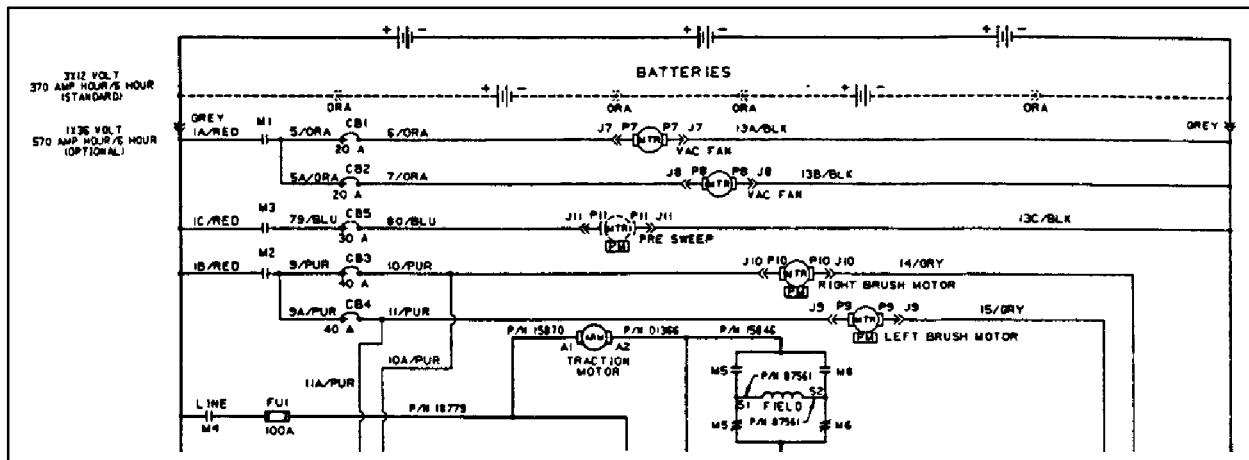
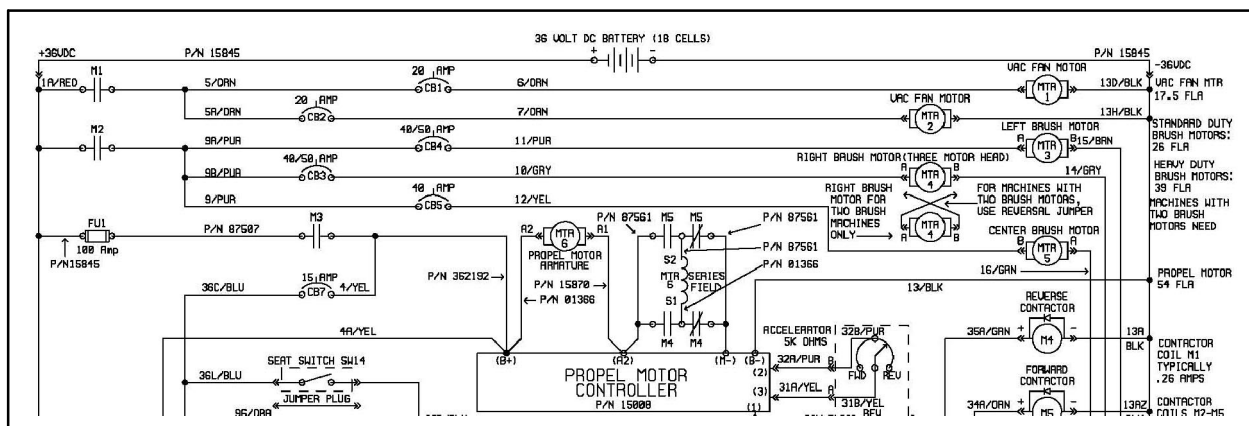
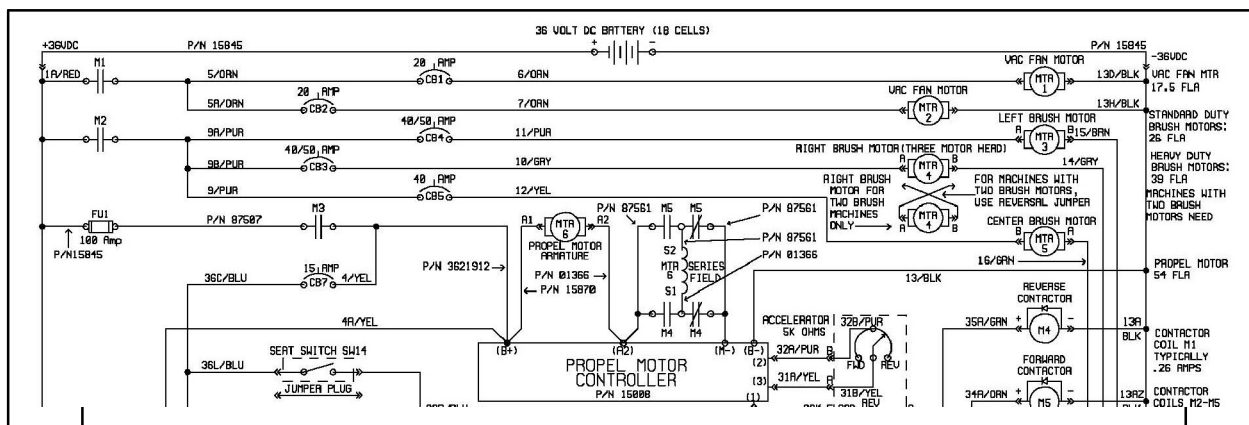

FIG. 2-Wire Diagram for 510E
FIG. 3-Wire Diagram for 8010
FIG. 4-Wire Diagram for 515
5. Connect wires previously attached to the old motors to the new motors (1). Refer to Fig. 2 for 515 machines serial numbers 0000-4286 and 510E machines. Refer to Fig. 3 for the 8010 machines. Refer to Fig. 4 for the 515 serial numbers 4287 and higher.